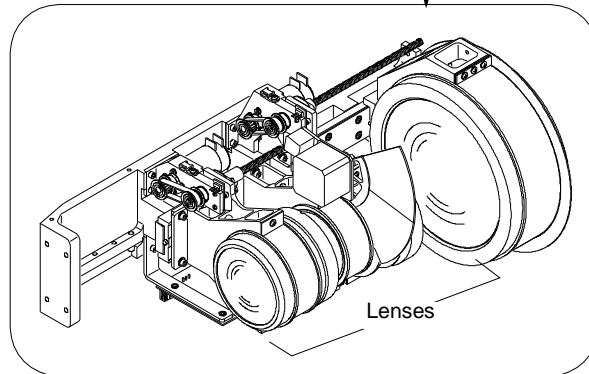

Figure 4-7: Accessing Zoom Lens Assembly
- Step 2. Remove R1-side head cover to access Zoom Lens Assembly (head cover doors have a label to identify them). See **Figure 4-7** on page 67.